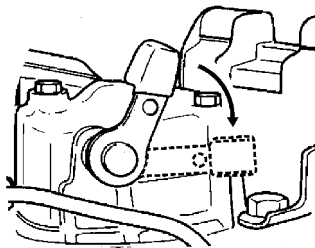

Figure 18. Decompression Lever
4. Push down the decompression lever (Figure 18).